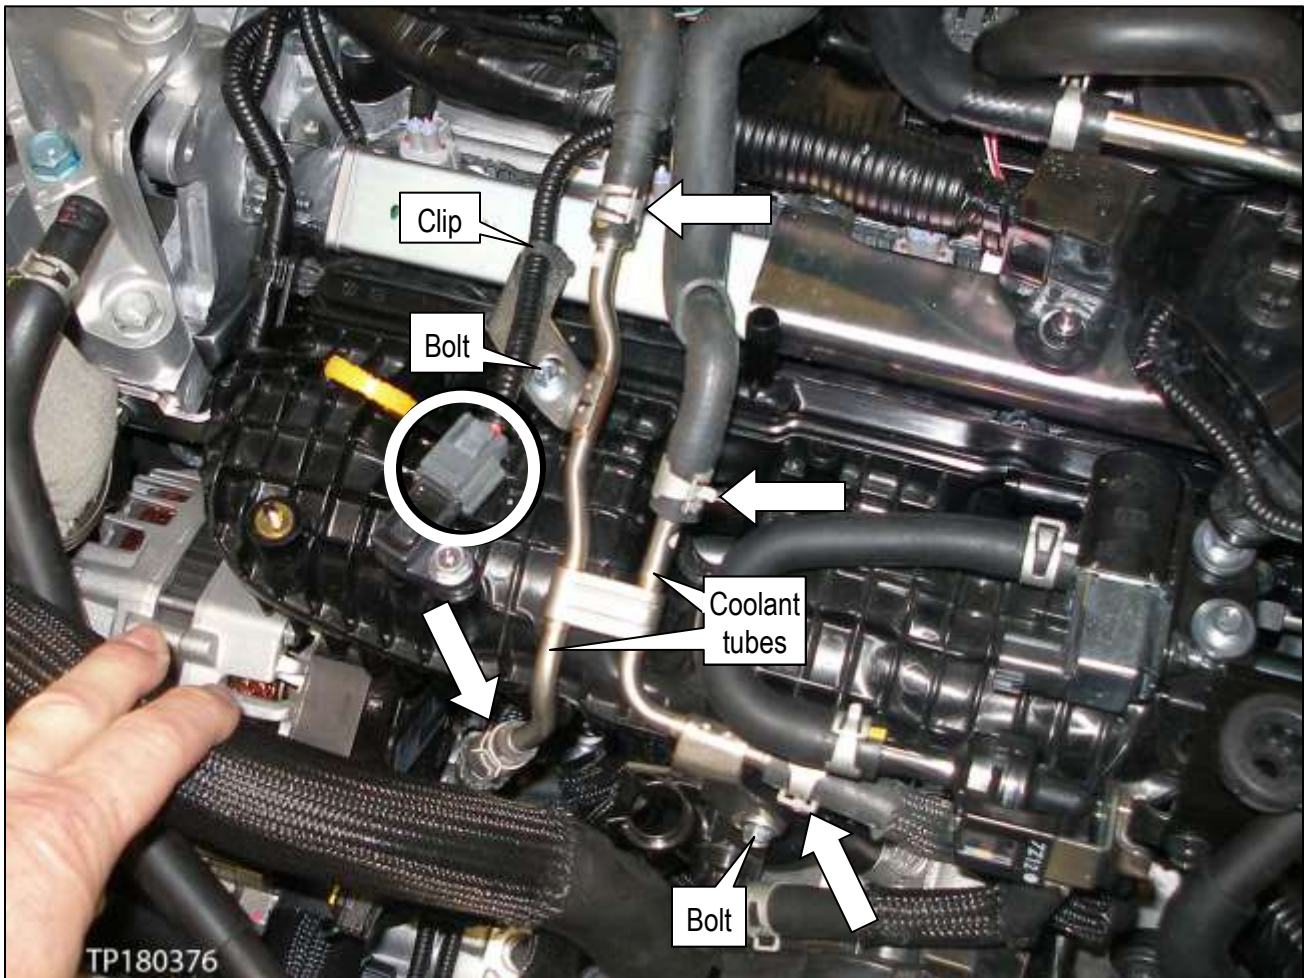

Figure 23
23. Disconnect the MAP sensor connector (see circle in Figure 23).
24. Unclamp, and then disconnect the one end of each of the four (4) turbo water inlet and outlet hoses from the metal coolant tubes (see arrows in Figure 23).
25. Remove the two (2) bolts (see Figure 23).